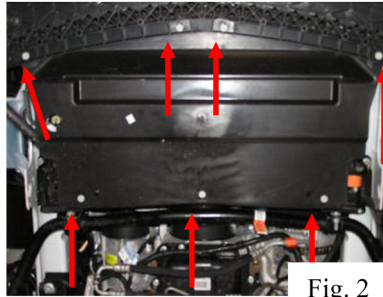

Fig. 2
- 4) Remove the 7 screws from the back of the lower engine splashguard (located below the engine and radiator) using a 5.5mm socket (Fig. 2).